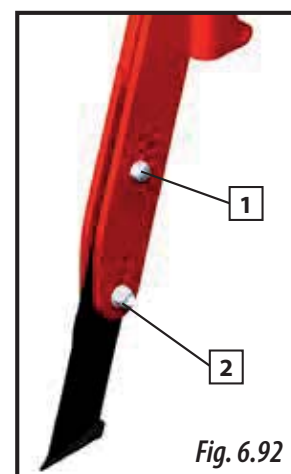
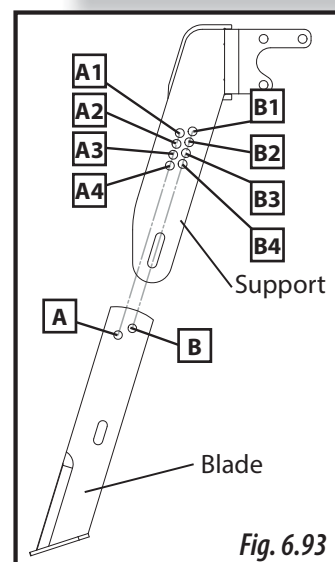

Fig. 6.92
Fig. 6.93
- 1- Remove both the nut and the position screw (1, Fig. 6.92)
- 2- Loosen both the nut and the fixing screw (2, Fig. 6.92)
- 3- Place the blade at the desired height, adjust the height until one of the holes (A or B, Fig. 6.93) fits another one.
The fixing screw (1, Fig. 6.93) needs to be placed at the same letter in both the blade and the support. Positions **A and B ARE NOT INTERCHANGEABLES**. To adjust the blade's working depth depending on the position of the position screw (1, Fig. 6.92), see next table and picture 6.93: